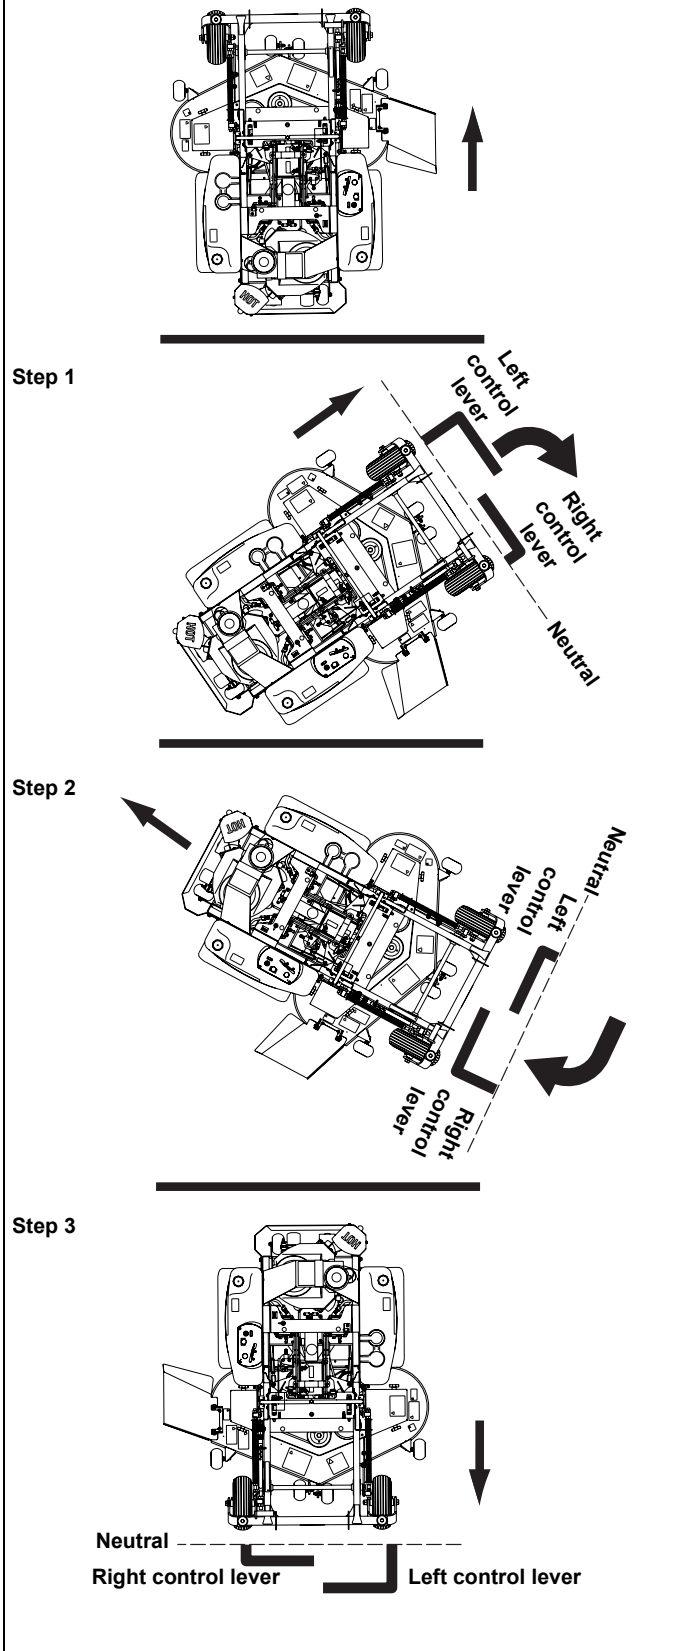

Fig. 4-7
**To make a three point turn to the right,** move the left steering control lever farther forward from neutral than the right steering control lever and start the turn. Next, pull back on the steering control levers until they are past neutral and the machine starts to go rearward. Pull right steering control lever farther rearward from neutral than the left steering control lever until the rear of the machine has pivoted around. Then, push the steering control levers forward until they are both past neutral and the machine starts to go forward. Push the left steering control lever farther forward from neutral than the right steering control lever and finish the turn. (Fig. 4-7)